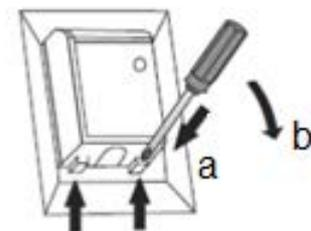

Figure 9 Mains power socket
- Insert the compact plug into the connection opening, see Fig. 9 Rear of the oven.